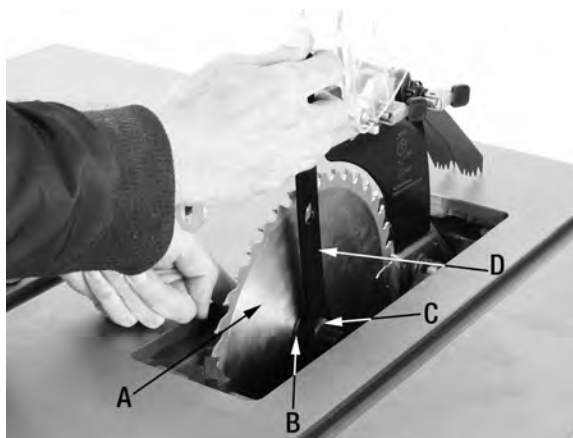

FIGURE 21
- 3) Place the supplied blade (A) Fig.21 or a different blade (10" blade with 5/8" arbor) on the arbor shaft making certain the teeth point down towards the front of the saw (as shown). Reinstall the blade flange (B) and arbor nut (C).
- 4) Push the spindle lock (A) Fig.22 towards the right and turn blade by hand until the spindle lock engages the flat of the inner blade flange and locks the blade. Using the provided blade wrench (D) Fig.21, securely tighten the arbor nut by pushing the wrench away from you (clockwise to tighten). Remove the wrench.